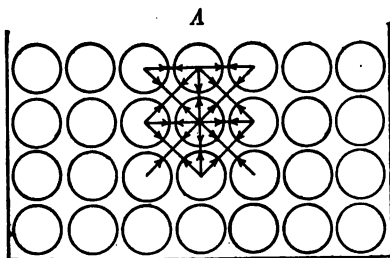

FIG. 14.—The molecule at *A* is held differently from one within the liquid.
23. Explanation of the Surface Film.—Beneath the surface of a liquid each molecule is attracted by all the other molecules around it, making the attraction equal in all directions. Consequently the molecules move very easily over each other in any direction. A molecule at the surface, as at *A*, Fig. 14, is not attracted *upward* by other liquid molecules. Its freedom of motion is thereby hindered with the result that the molecules at the surface behave differently from those beneath the surface. They